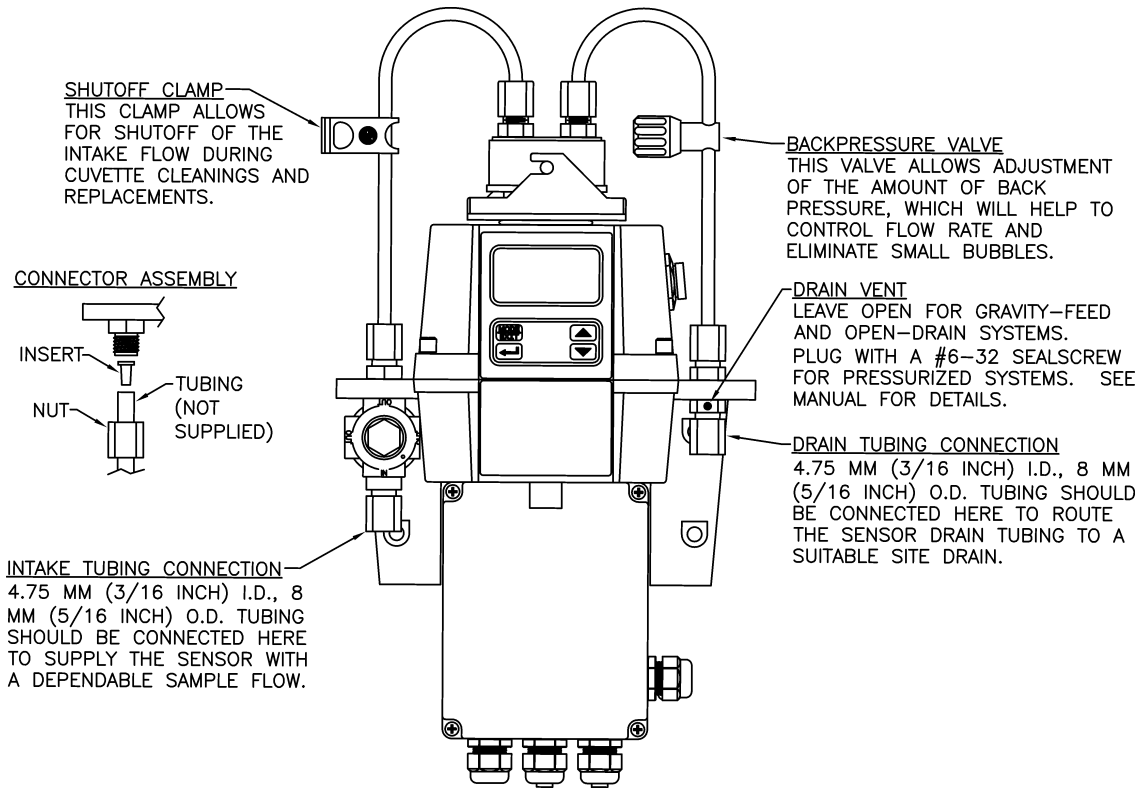

Figure 4: Recommended Plumbing for the Instrument
- Refer to Figure 4.
The recommended plumbing for the instrument is shown in Figure 4. The instrument is designed to require very little head pressure to operate; around 6.9kPa (1 PSI). Flow requirements are 100ml/min. – 1.5 liter/min. (0.026-0.40Gal/min). The pressure regulator will allow for a maximum pressure of 1380kPa (200 PSI.). The maximum allowable fluid temperature is 50°C (122°F).
In figure 4, there are two operator controlled flow adjustment devices shown. The one on the input side is a shutoff clamp used during cuvette maintenance. The other device, located on the output side of the flow cell, is a backpressure valve. Backpressure may be required to prevent air from coming out of solution, which may be observed as tiny air bubbles.
3.2.2 Drain Vent: The AccUView LED has been fitted with a drain vent in the “OUT” bulkhead fitting. This fitting allows for atmospheric equalization, thus helping to alleviate bubble formation in the cuvette. Refer to Figure 4.